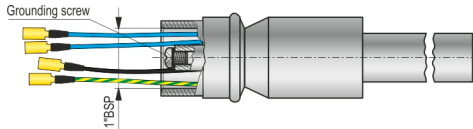

Figure 11
- Use the grounding screw terminal (see Figure 11.) to ground the extension pipe. Caution! Life protection ground, 25 A class ground connection must be used.